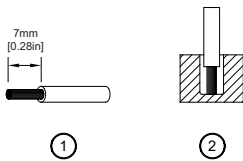

Figure 4
To secure reliable and shock proof connections, the stripping length should be 7 mm [0.28 in] (see Fig. 4 (1)). Please ensure that wires are fully inserted into the connecting terminals as shown in Fig. 4 (2).